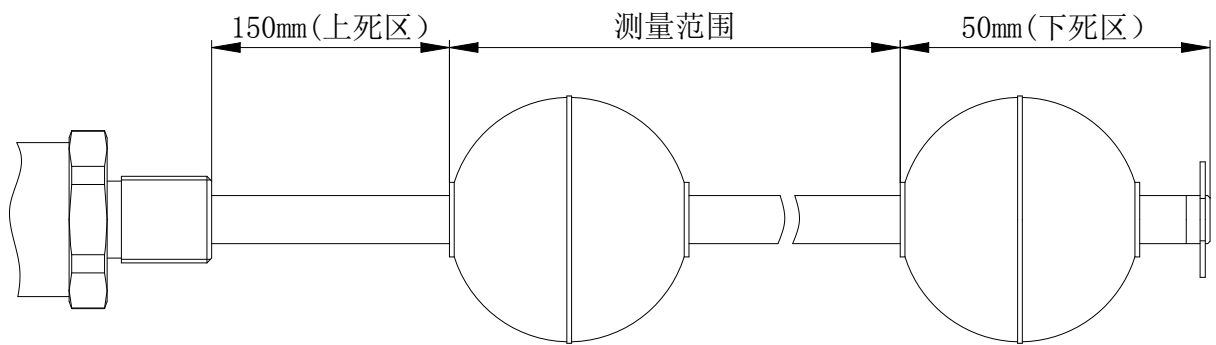

Figure 3: Product appearance diagram
- b) There is a measuring dead zone on both sides of the measuring rod, see Figure 3.
- c) When the locking clamp ring is fixed, the lower end should be in the same level with the rod bottom, see Figure 3.